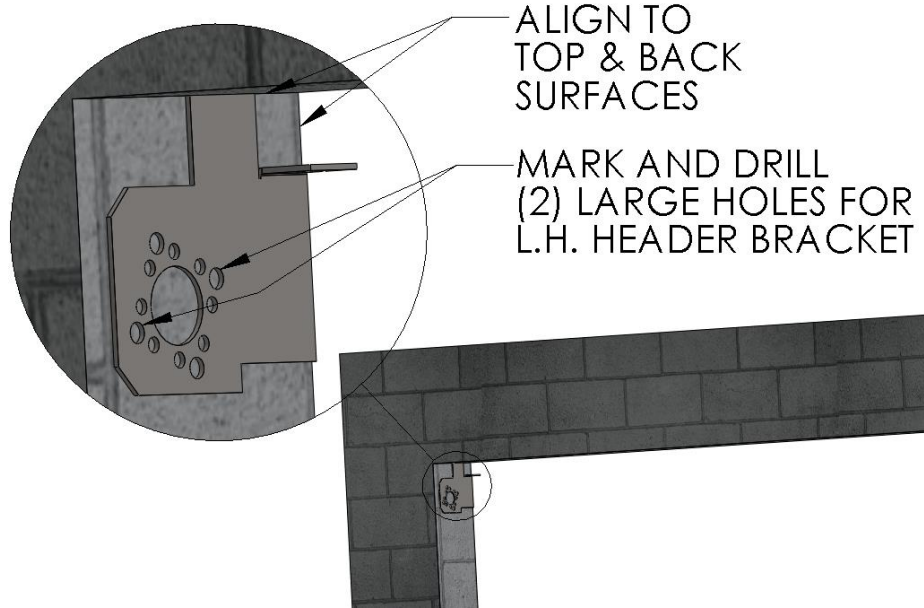

Figure 3 MARK & DRILL L.H. HEADER MOUNTING BRACKET
3. At the upper Left of the opening, use the L.H. Header Mounting Bracket to transfer the hole locations to the mounting surface and drill for your hardware. (Figure 3 MARK & DRILL L.H. HEADER MOUNTING BRACKET)